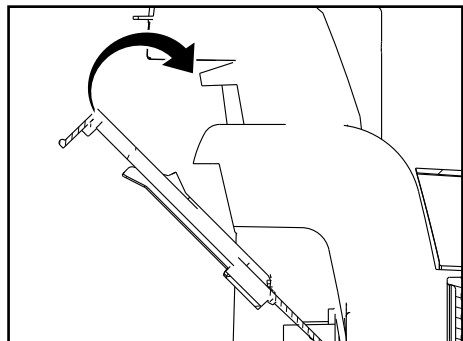

Fig. 4
- Push the top of the bag collar upward until the bag holder “snaps” into place on the vacuum (Fig. 4).